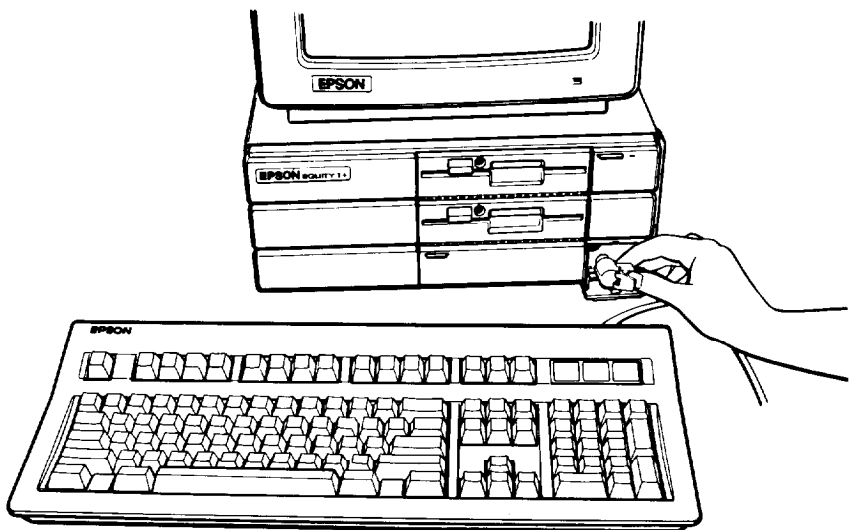

Figure 1-7. Connecting the cable to the main unit
2. Insert the keyboard connector as shown in Figure 1-7. Do not force the connector, but make sure you insert it all the way. See that the cable exits to the right of the main unit.